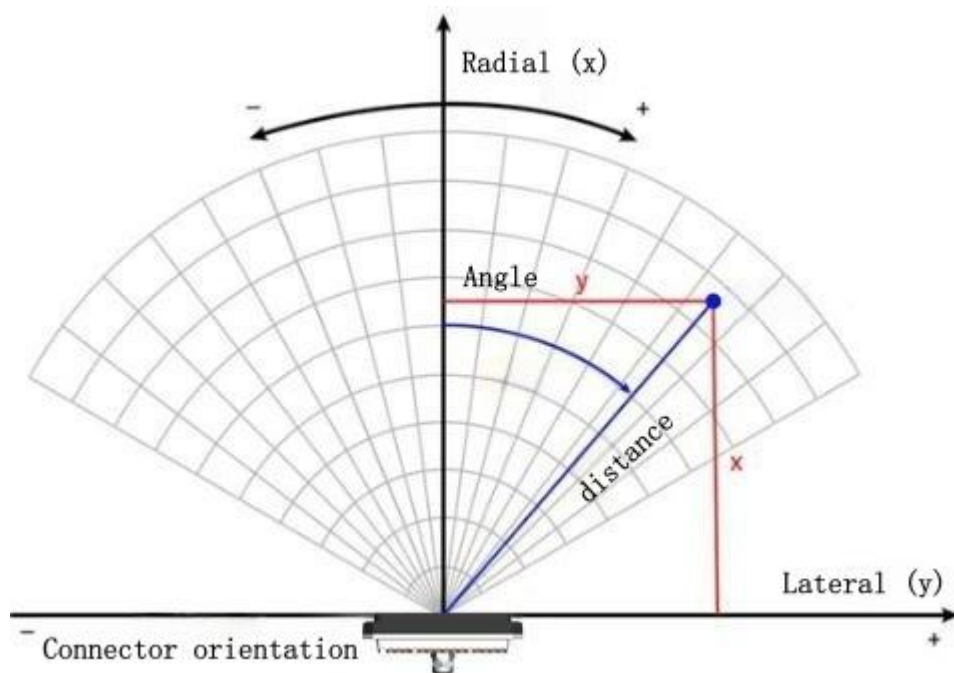

Fig. 2 Illustration of Radar Direction
- (1) The nsr120 needs to be installed on a stable support when in use;
- (2) When the nsr120 is in use, the direction of the connecting line is shown in Figure 2, and the antenna surface is installed perpendicular to the ground;